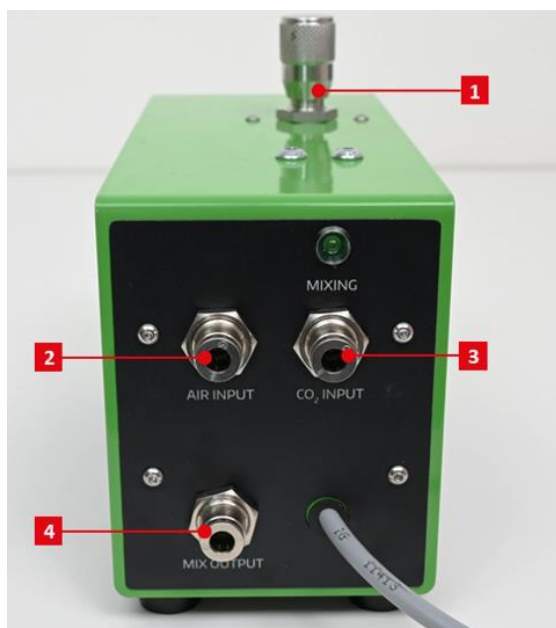

Fig. 41 Connection of Parker tubing to the pH stat kit.
5. Connect the Parker tubing for CO₂ and Air delivery as shown on Fig. 41. **Use the input gas pressure around 1 bar.** In case a pressurized source of CO₂ or Air will be used it is necessary to lower the outcoming gas pressure via any pressure reducing valve to the appropriate level before connecting the gas source to the pH stat kit.